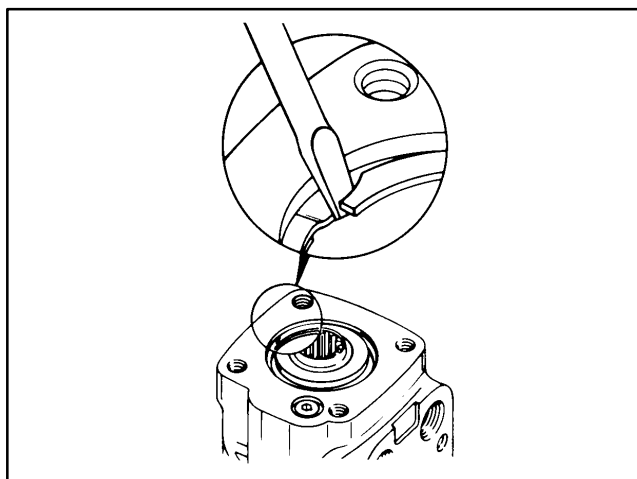

Figure 30
11. Remove housing from vise. Place housing on a clean soft cloth to protect surface finish. Use a thin-blade screwdriver to pry retaining ring from housing, as shown in Fig. 30.